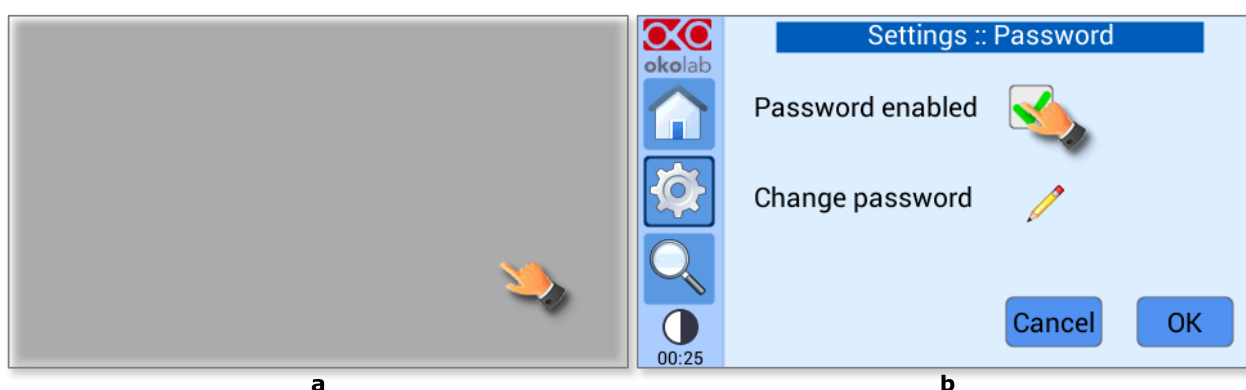

Figure 70. Password. (a) Password settings menu; (b) password subpage
- 1 Press on the *Password* icon , see Figure 70(a)
- 2 Flag the tab *Password enabled* as shown in Figure 70(b)